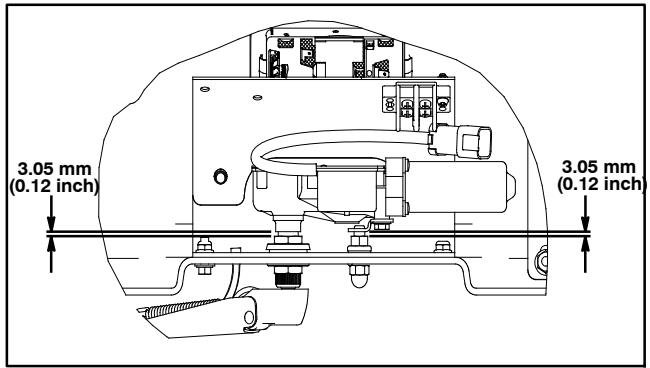

Figure 34
1. Locate the nuts on the studs at the dimensions shown before assembling the wiper motor into the console (Fig. 34).